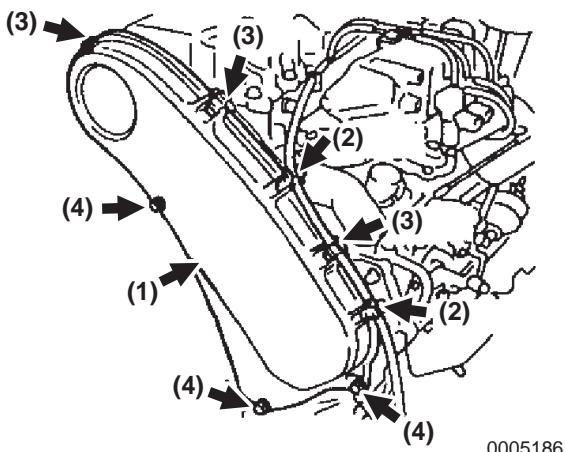

Figure 5-186
22. Install the timing belt cover (Figure 5-186, (1)) with bolts and 3 seal washers (Figure 5-186, (4)), 2 clamps (Figure 5-186, (2)) and 3 clips (Figure 5-186, (3)).